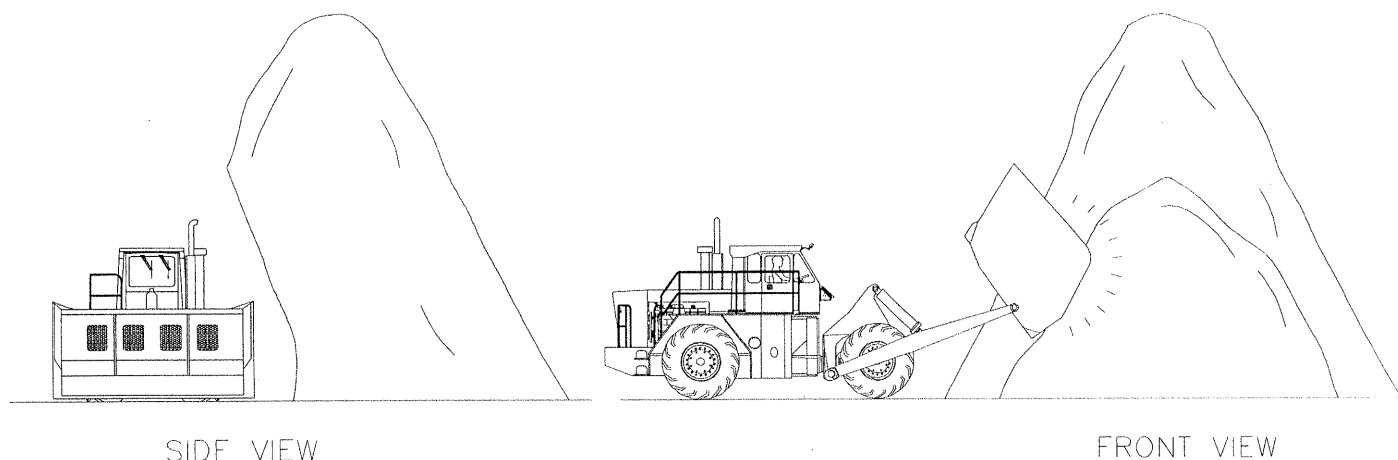

Fig. 4-7
1. If it becomes necessary to knock down an overhang, use the following procedure as shown in Fig. 4-7.
Never place yourself or dozer under the overhang. Approach from the outside of the overhang and break down with the bucket as shown in Fig. 4-7.